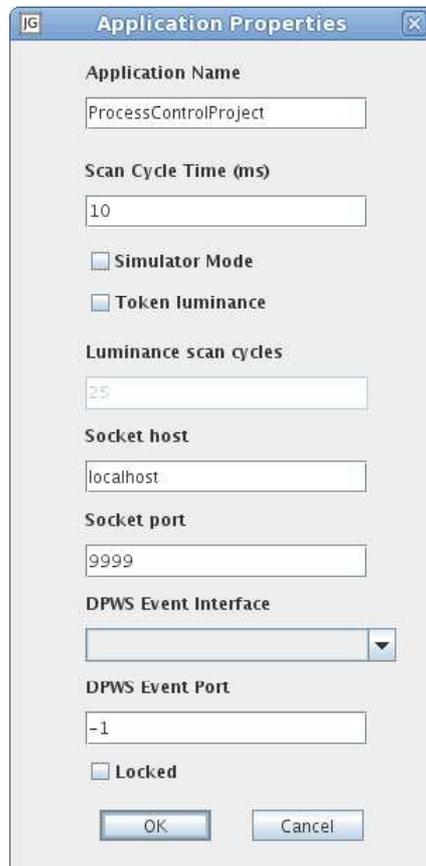

Figure 2 The *Application Properties* window.
6. Click on the *Properties* button and verify that *Simulator Mode* is unmarked, see Figure 2.